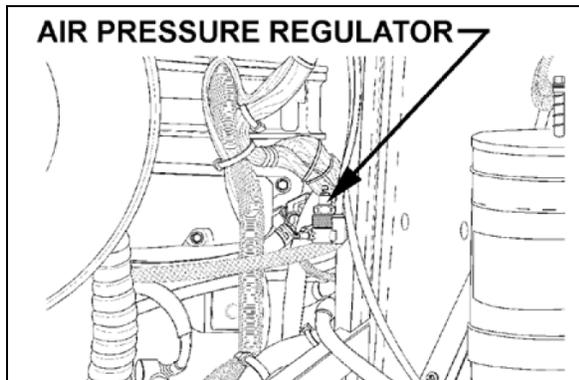

FIGURE 9: AIR PRESSURE REGULATOR (TYPICAL) 07037
18. Adjust the retarder pressure to  $80 \pm 3$  psi with the air pressure regulator. For more information refer to Section 12, "BRAKE AND AIR SYSTEM", under heading "AIR PRESSURE REGULATOR". The air pressure regulator is located at back of engine compartment, on R.H. side (Fig. 9) or in the R.H. side rear service compartment.